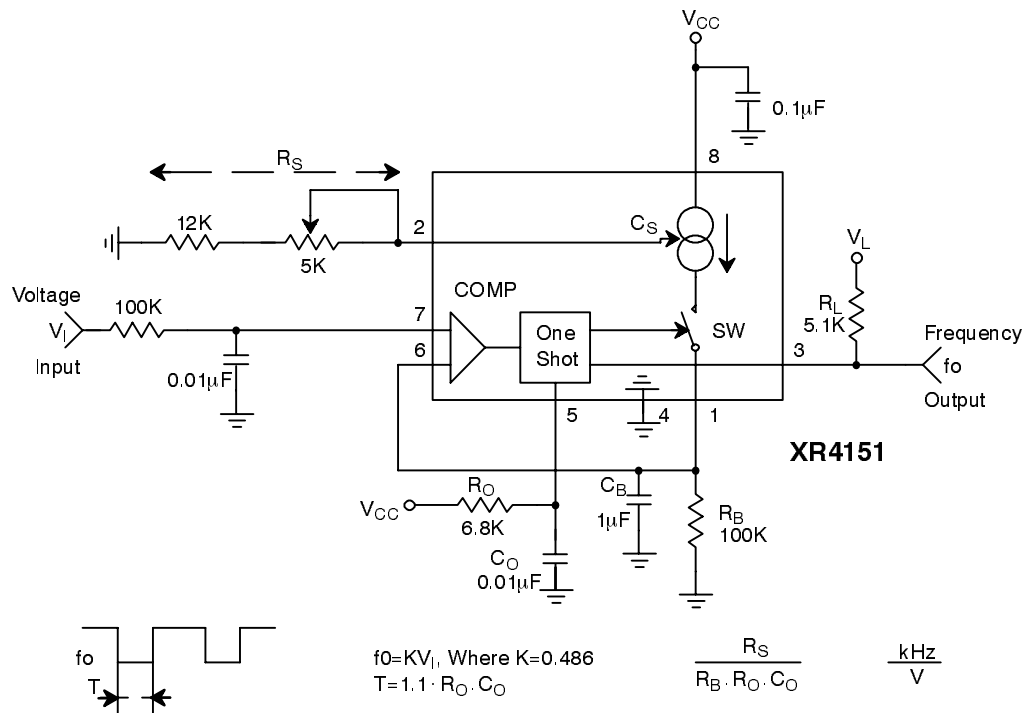
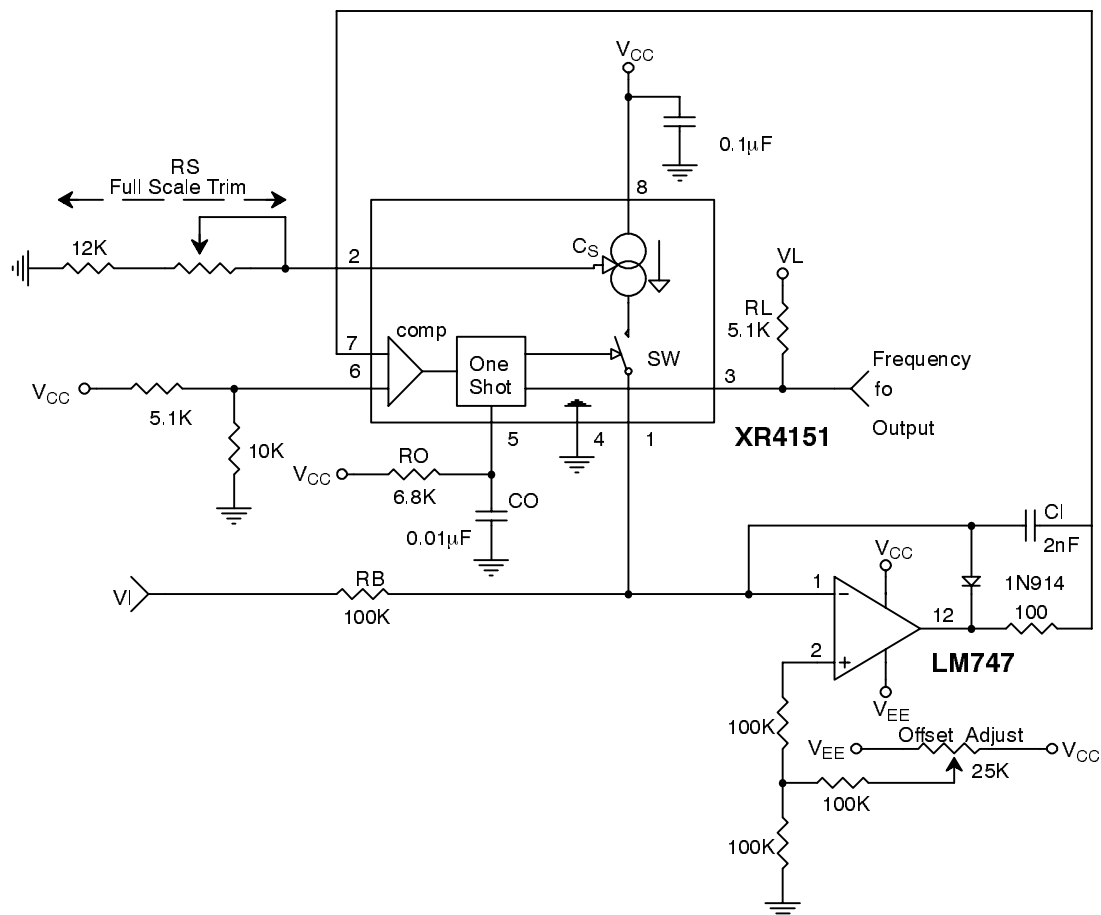

Figure 2. Voltage-to-Frequency Converter
Figure 3. Precision Voltage to Frequency Converter
In this application, the XR4151 functions as a stand alone voltage-to-frequency converter operating on a single positive power supply. Refer to the functional block diagram and *Figure 2*, the circuit connection for single supply voltage-to-frequency conversion. The XR-4151 contains a voltage comparator, a one-shot, and
Figure 2 shows the simplest type of VFC that can be made with the XR4151. The input voltage range is from 0 to +10V, and the output frequency is from 0 to 10kHz. The full scale frequency can be tuned by adjusting R_S , the output current set resistor. This circuit has the advantage of being simple and low in cost, but it suffers from inaccuracy due to a number of error sources. Linearity error is typically 1%. A frequency offset will also be
introduced by the input comparator offset voltage. Also, response time for this circuit is limited by the passive integration network $R_B C_B$. For the component values shown in Figure 2, response time for a step change input from 0 to +10V will be 135msec. For applications which require fast response time and high accuracy, use the circuit of Figure 3.
In this application (*Figure 3*) the XR4151 is used with an operational amplifier integrator to provide typical linearity of 0.05% over the range of 0 to -10V. Offset is adjustable to zero. Unlike many VFC designs which lose linearity below 10mV, this circuit retains linearity over the full range of input voltage, all the way to 0V.
The operational amplifier integrator improves linearity of this circuit over that of *Figure 2* by holding the output of the source, Pin 1, at a constant 0V. Therefore, the linearity
4. Avoid stray coupling between pins 5 and 7; it could cause false triggering. For the circuit of *Figure 2*, bypass pin 7 to ground with at least $0.01\mu\text{F}$. This is necessary for operation above 10kHz .
1. Set $R_S = 14k\Omega$ or use a 12K resistor and 5K pot as shown in the figures. (The only exception to this is *Figure 3*).
3. a) For the circuit of *Figure 2* make $C_B = 10^{-2} [1/f_0]$ Farads.
4. a) For the circuit of *Figure 3* keep the values of R_B as shown and use an input attenuator to give the desired full scale input voltage.
b) For the precision mode circuit of *Figure 3*, set $R_B = V_{IO}/100\mu A$ where V_{IO} is the full scale input voltage.